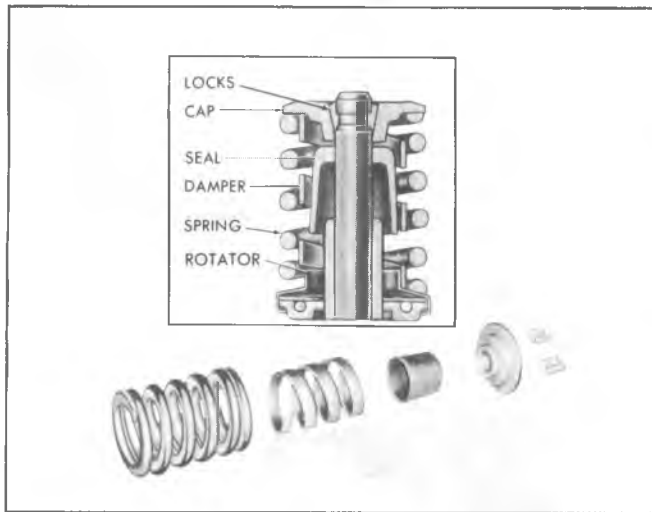

Fig. 6A5-23--Valve Spring Installation
4. Check the installed height of the valve springs, using a narrow thin scale. A cutaway scale will help (fig. 6A5-24). Measure from the top of the shim or the spring seat to the top of the valve spring or valve spring shield (fig. 6A5-25).